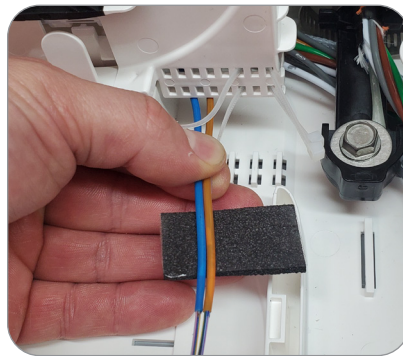

Figure 80
6. Using the AFL Foam Retention Kit included with the splice tray, cut a piece of foam and wrap around the buffer tube(s). Secure in groups of two to guarantee all fiber is protected. Make up zip ties to secure the fiber and foam into the tray. Cut away zip tie tails and discard (Figures 80 and 81).